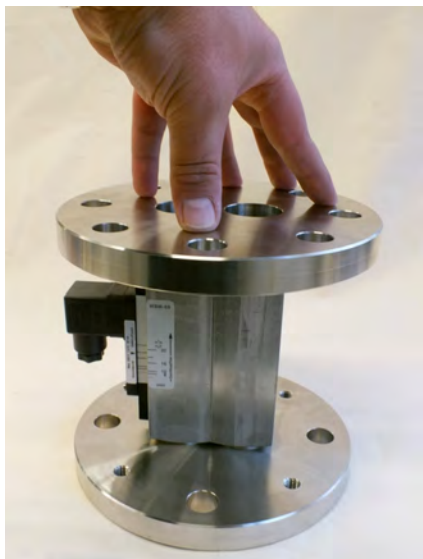

Fig. 69: Attach connecting flange (output)
- 19.** ▶ Attach the connecting flange (output) (Fig. 69) carefully onto both device bodies, taking care not to cant the connecting flange.